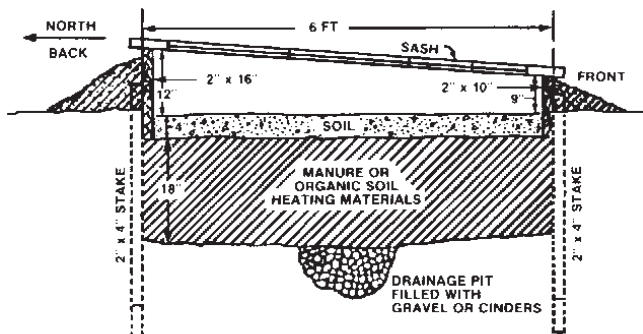

Figure 2. Cross section of a manure-heated pit hotbed.
**Pit Hotbed** (Figure 2). When manure is used to supply heat, the soil inside the bed should be excavated to a depth of 16 to 18 inches. A 4-inch layer of coarse cinders or gravel forms the bottom portion for drainage and im-